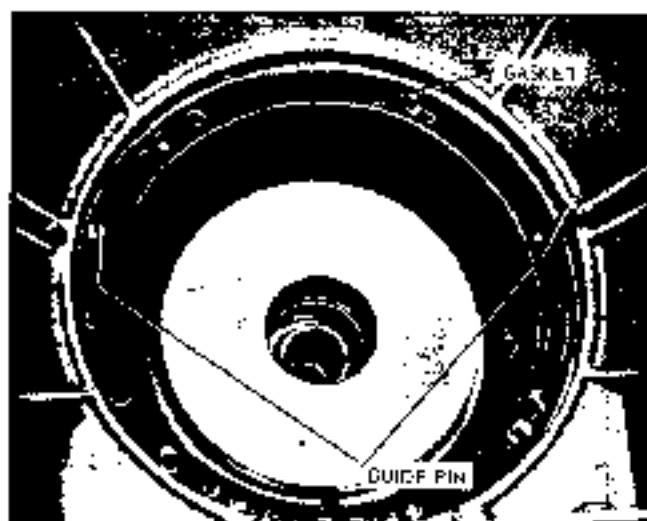

Fig. 7F-98 Guide Pins and Gasket Installed
3. Install low band apply strut and band adjusting screw strut (Fig. 7F-96). After both struts have been installed, tighten low band adjusting screw enough to prevent struts from falling out.